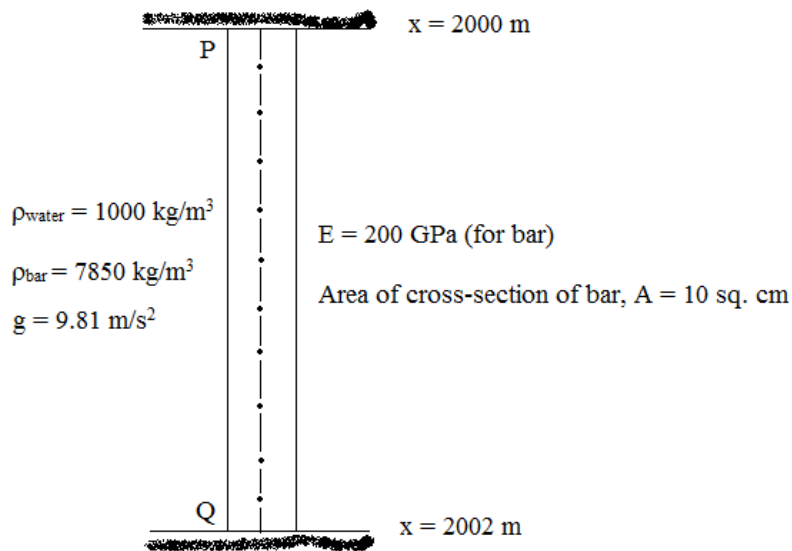

Fig.5: A bar submerged in sea (Figure for Q.11)
Q.11: A bar of uniform cross-section is submerged in sea (Fig.5). The top end P of the bar is at a depth of 2000 m from the sea level and the bottom end Q is at the depth of 2002 m from the sea level. The bar is fixed at ends P and Q and is held stationary within the sea with some kind of mechanism. It is assumed that there is no disturbance due to flow of water. Using Rayleigh-Ritz method find the displacement at midpoint of the bar.